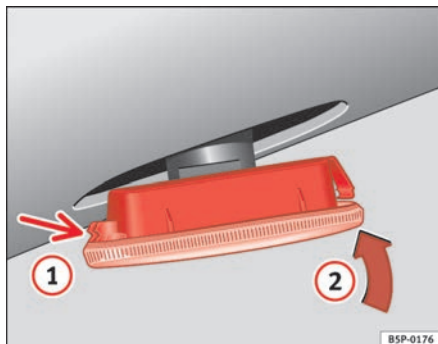

Fig. 218 Side indicator
- First place the indicator in the opening in the bodywork, fixing the tabs ⇒ fig. 218, arrow ①.
- Insert the bulb as shown by the arrow ② ⇒ fig. 218. ■